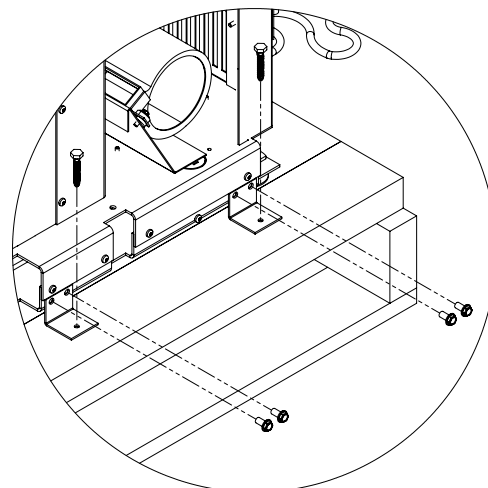

Figure 3: Shipping Bracket Removal
5. Remove the 1/4" bolts that secure the shipping brackets to the stove. See Figure 3.